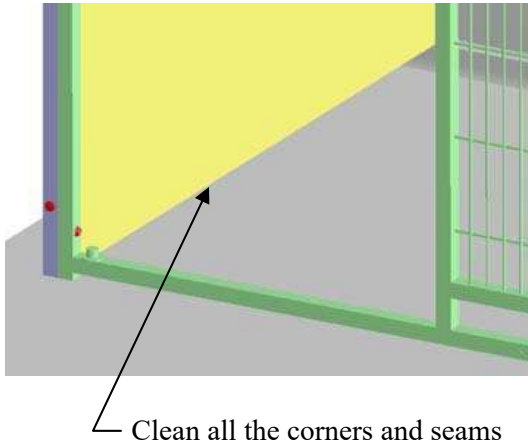

Figure 13
1. Use a primer or Isopropyl Alcohol (read health hazard information) to clean all the corners, cracks, edges, and areas that need to be sealed. This should remove any dust or oil that would inhibit good adhesion (**Figure 13**).